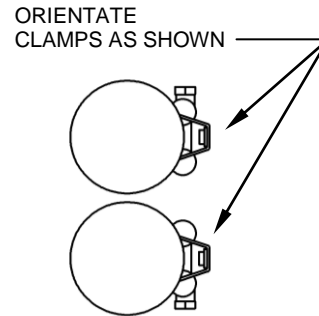

FIGURE 4
11. Remove the muffler assembly from the box and slide two supplied 27 - 61MSC clamps onto the muffler tubes. The clamps should be orientated as shown in Figure 4. Slide the muffler onto the headpipes by tapping it onto the headpipes with your hand as you push the mufflers forward making sure the muffler slides as far forward as possible. Secure the muffler to the exhaust-mounting bracket using the supplied 5/16 bolts but **DO NOT TIGHTEN** at this time.